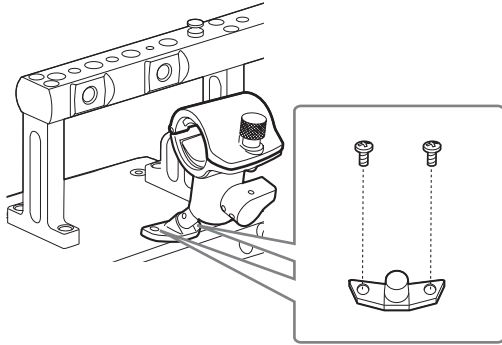

Fig. 1
- 1 Remove the screws at the microphone holder mounting position and attach the microphone holder AJ-MH800G (optional). (Fig. 1)